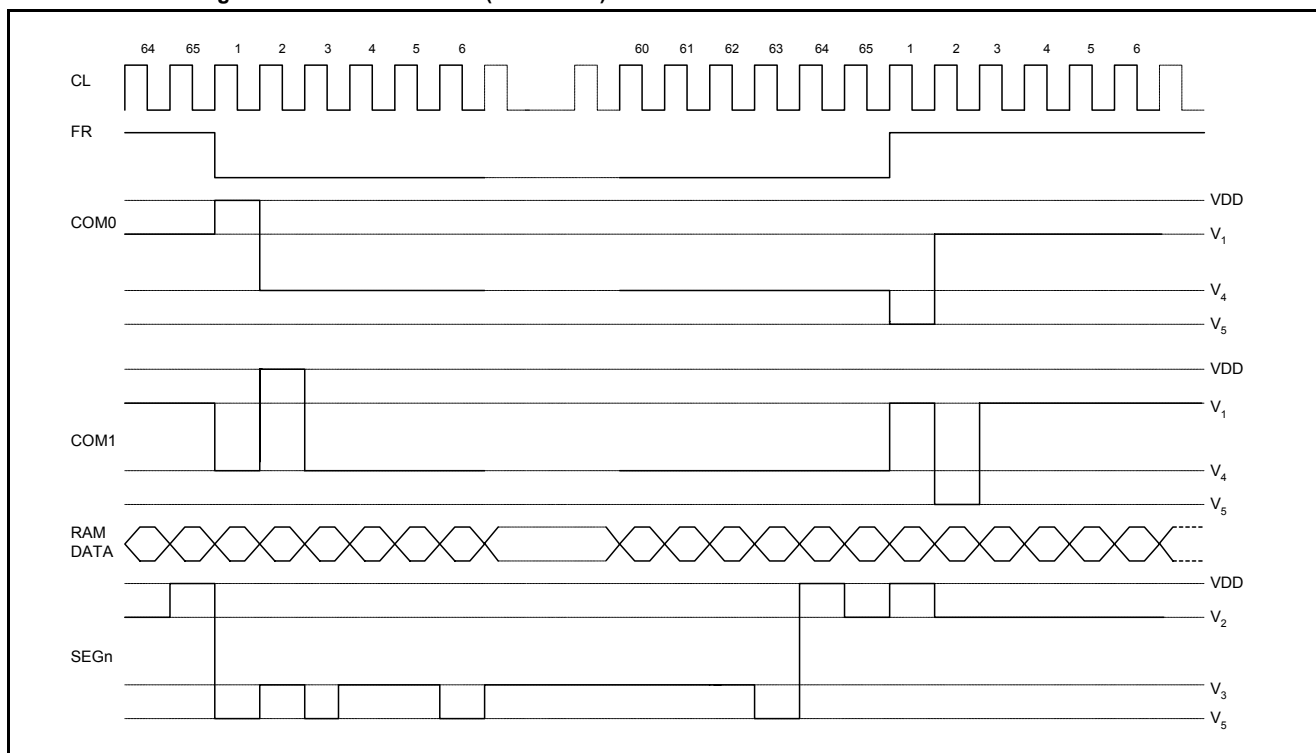

Figure 5
The display timing generator circuit generates the timing signal to the line address circuit and the display data latch circuit using the display clock. The display data is latched into the display data latch circuit synchronized with the display clock, and is output to the data driver output terminal. Reading to the display data liquid crystal driver circuits is completely independent of accesses to the display data RAM by the MPU. Consequently, even if the display data RAM is accessed asynchronously during liquid crystal display, there is absolutely no adverse effect (such as flickering) on the display. Moreover, the display timing generator circuit generates the common timing and the liquid crystal alternating current signal (FR) from the display clock. It generates a drive-wave form using a 2-frame alternating current drive method, as is shown in Figure 5, for the liquid crystal drive circuit.